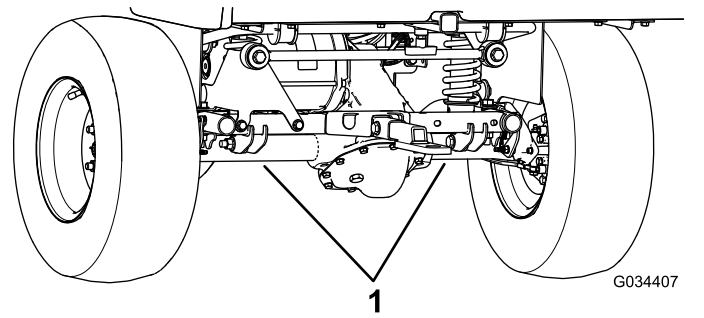

Figure 24
- The lifting point at the rear of the machine is located under the axle tubes (Figure 24).